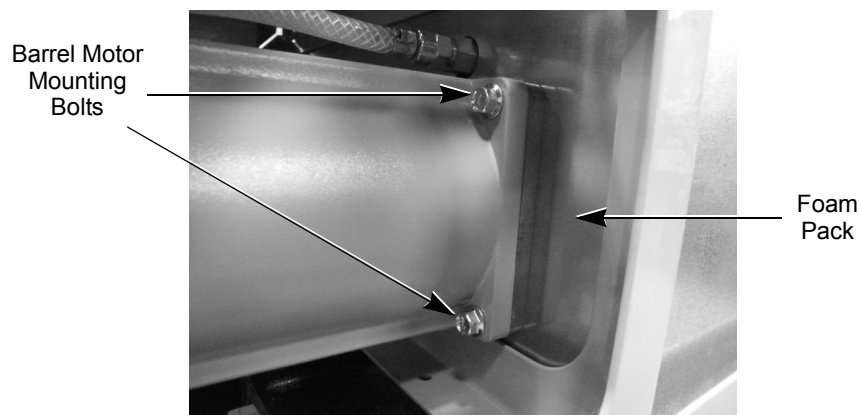

Figure 43. Side View of Motor Showing Two of the Four Mounting Bolts
The barrel motor does not require any special alignment when being replaced. It mounts on four (4) bolts. These bolts are screwed into threaded bosses in the foam pack barrel assembly, as shown in Figure 43. To replace a barrel motor, perform the procedure in Table 45.